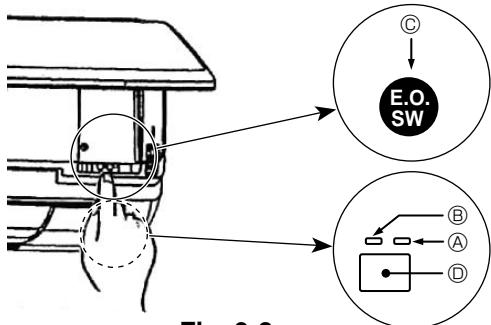

Fig. 9-2
- To stop operation, press the ④ button ④ or the ③ button ③ for more than 2 seconds.
[Fig.9-2] ① DEFROST/STAND BY lamp (Orange)
② Operation lamp (Green)
③ Emergency operation switch (cooling/heating)